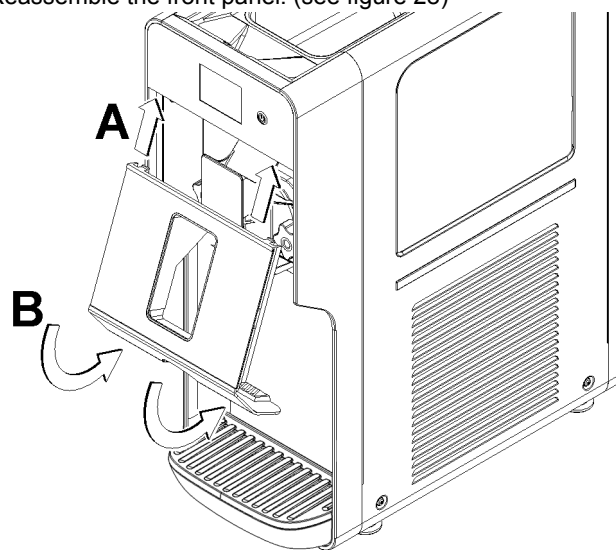

figure 28
- 6** Reassemble the front panel. (see figure 28)